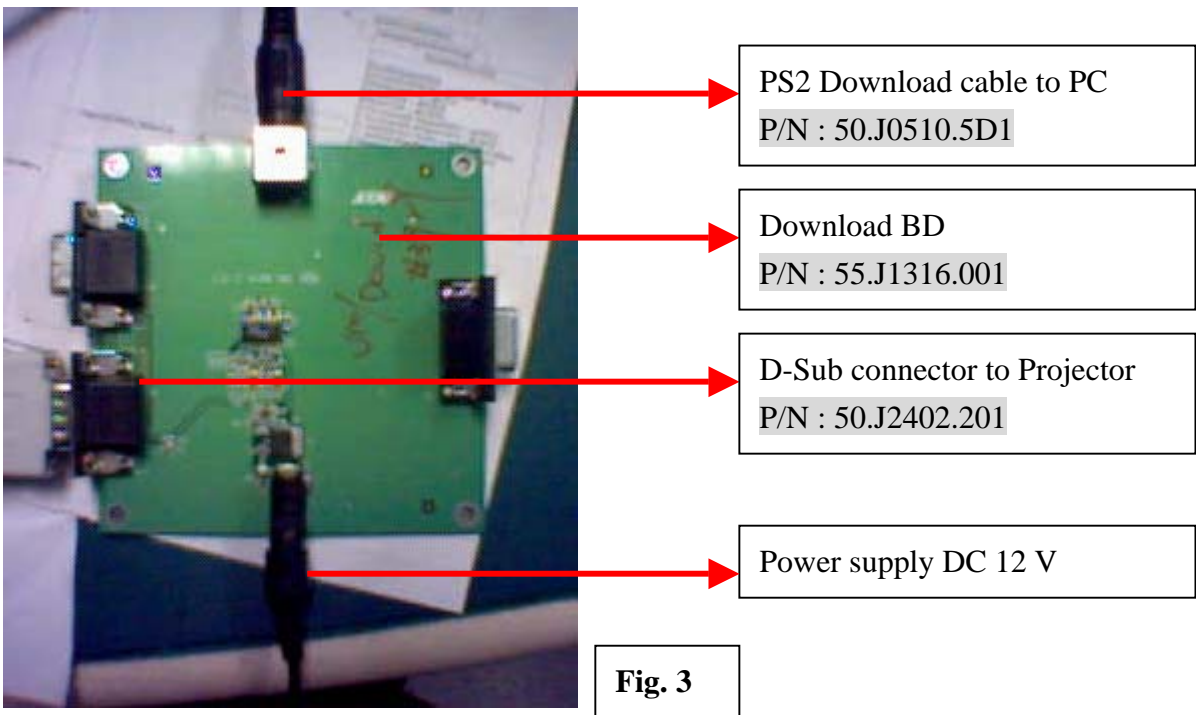

Fig. 3
- Setup the download board as Fig. 3